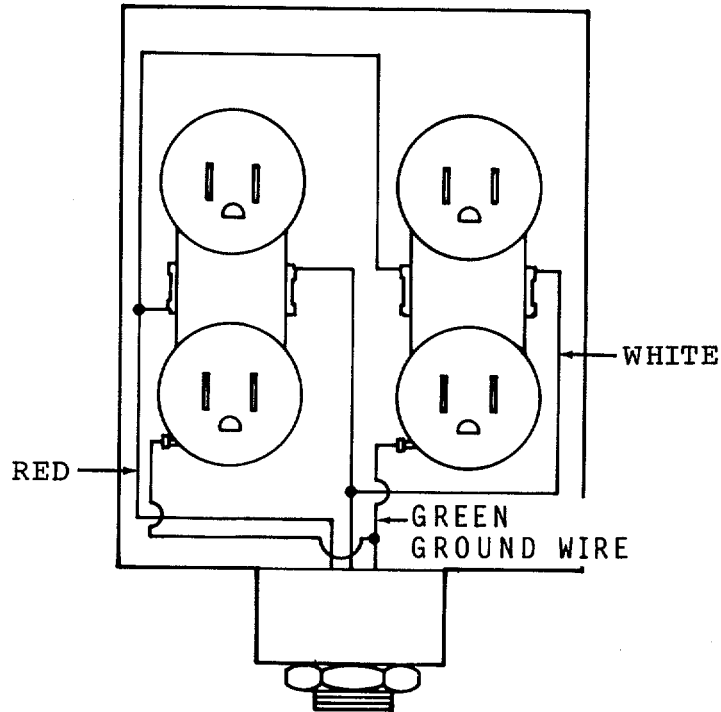

Figure 6-18. Four-receptacle Junction Box Schematic.
- (1) To replace the cable (wiring), remove all junction boxes per step (2), then place junction boxes on new cable per step (2).
- (2) To replace any junction box, refer to the schematics (Figures 6-18 through 6-20) and proceed as follows:
- (g) Connect the wiring to the receptacles per the schematics (Figures 6-18 through 6-20).